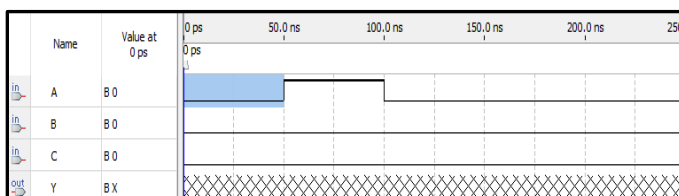

Figure 8: Vwf with A set to high from 50 ns to 100 ns
2. Using your mouse (make sure the pointer is selected), click and drag your mouse cursor across 0 ns to 100 ns on input A to select the area. You should see that area highlighted blue (as seen from 0ns to 50 ns in Figure 8). Now press the
3. Using the same methods in the previous step, set the time period of 0 ns to 50 ns to Low by using the “0” button. Your vwf should look like Figure 8.